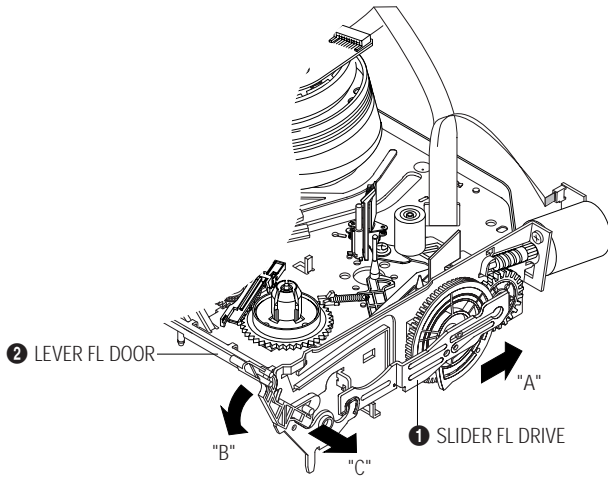

Fig. 5-13 Lever FL Door Removal
- 1) Pull the Slider FL Drive ❶ to the front direction.
- 2) Remove the Slider FL Drive ❶ in the direction of arrow. (Refer to Fig. 5-13)
- 3) Remove the Gear FL cam ❷.
**Note :** When reinstalling be sure to reassemble Slider FL drive ❶ after you insert the Boss of Lever FL ARM-R in Groove of Slider FL drive ❶.
**Assembly :** Align the Gear FL Cam ❶ with the Gear worm wheel Post as shown drawing. (Refer to Timing point)